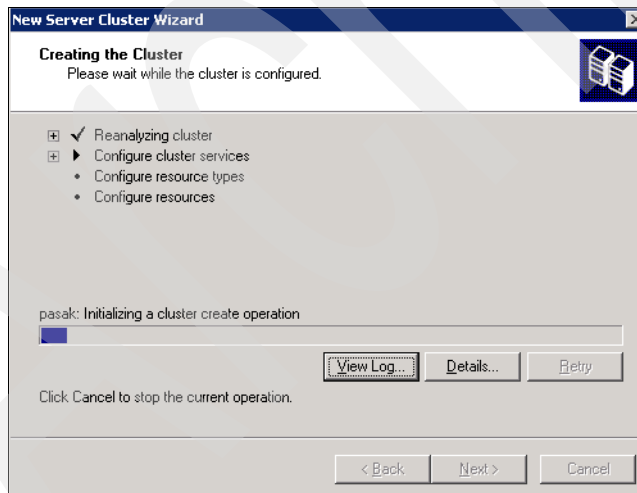

Figure 25-35 Creating the cluster
11. The cluster wizard now starts to install the cluster software and services (Figure 25-35).